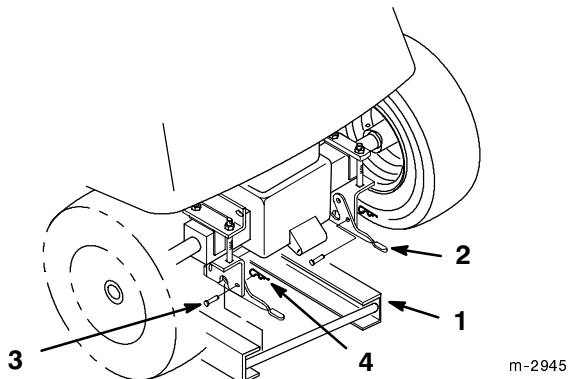

Figure 6
10. Close the latch levers and secure them with 1/4 x 3/4 in. (19 mm) clevis pins and small hairpin cotters (Fig. 6).